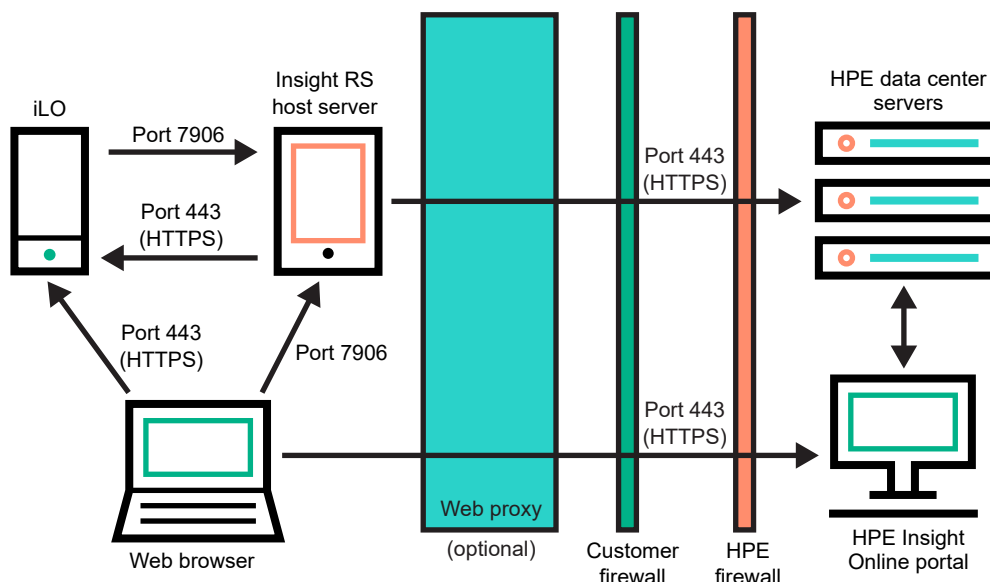

Figure 5: Network requirements for Insight Remote Support central connect
2. Ensure that your environment meets the port requirements shown in **Figure 5: Network requirements for Insight Remote Support central connect**.